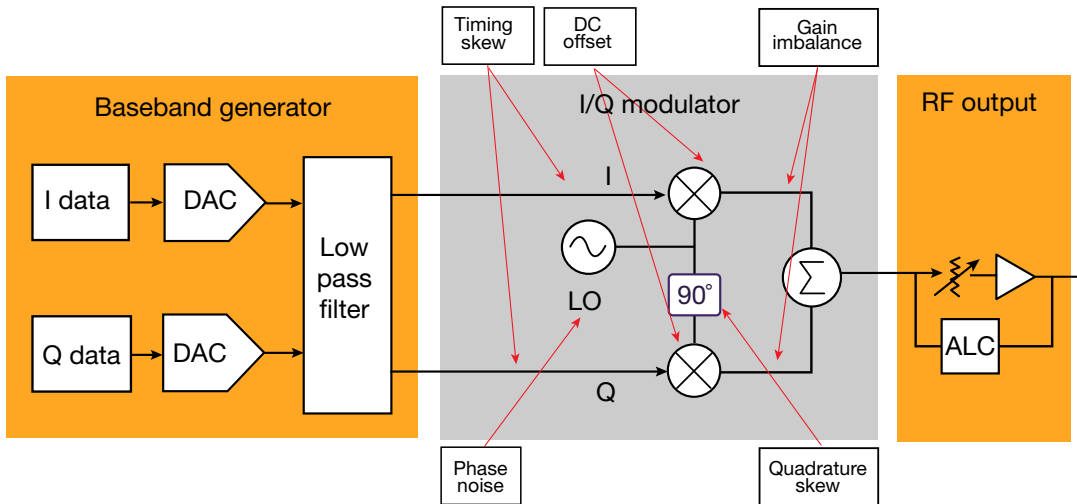

Figure 6: A block diagram of an I/Q modulator and possible errors
The I (in-phase) and Q (quadrature) signals from the baseband generator's output travel to the I/Q modulator and upconvert to an intermediate frequency (IF) and RF signal. Before combining the I and Q signals, the I and Q signals mix with a same local oscillator (LO) and insert a 90-degree phase shifter in one of the LO paths, as shown in Figure 6. Each component in the I/Q modulator contributes a certain kind of error, resulting in final modulation quality.